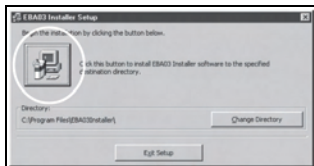

Figure 4-6 Third Software Install Screen
- To complete the software installation on your hard drive, click the large icon shown in Figure 4-6 and follow the screen prompts.